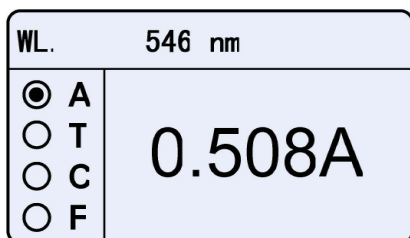

Fig. 4-3
- 4) Pull the unknown concentration sample in the light path and then record the displayed value (Fig. 4-3).